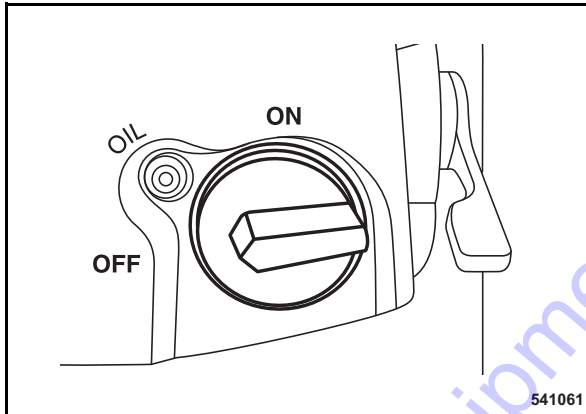

Fig. 60
- Set the engine stop switch (Fig. 60) to position "OFF" (fuel valve closed).